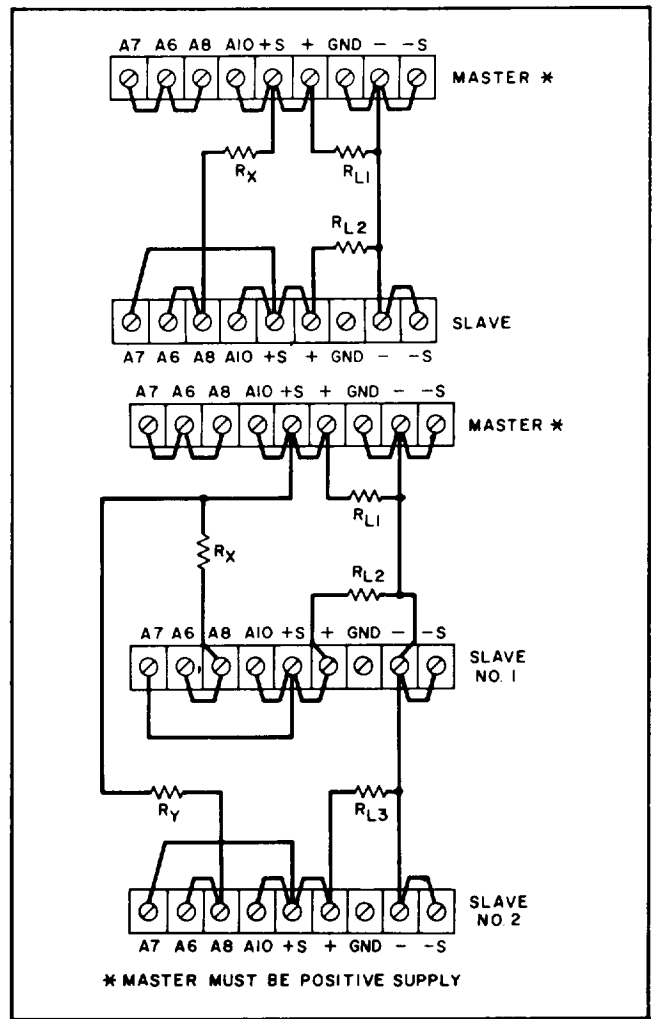

Figure 3-10. Auto-Tracking, Two and Three Units
**3-35 AUTO-TRACKING OPERATION** (See Figure 3-10)
3-36 The Auto-Tracking configuration is used when it is necessary that several different voltages referred to a common bus, vary in proportion to the setting of a particular instrument (the control or master). A fraction of the master's output voltage is fed to the comparison amplifier of the slave supply, thus controlling the slave's output. The master must have the largest output voltage of any power supply in the group (must be the most positive supply in the example shown on Figure 3-10).